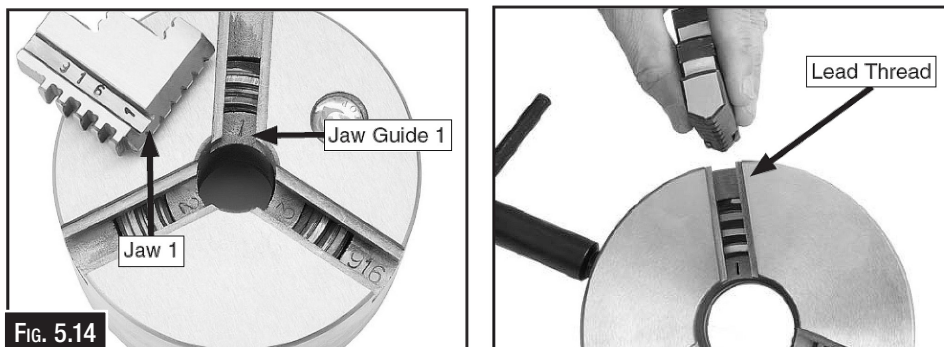

FIG. 5.14
Changing Jaws on 3 Jaw Chuck (Fig. 5.14)
7. Slide the #1 jaw into the #1 jaw guide and hold it firmly against the scroll gear threads, then rotate the chuck key clockwise approximately one turn until the lead thread engages with the jaw. (Fig. 5.14)